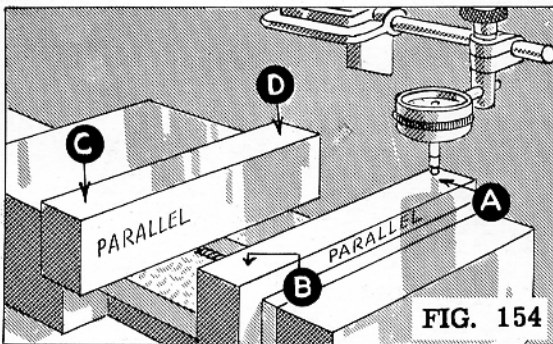

FIG. 154
17. Move the ram so that it is at the beginning of the stroke. Move the table so that one end of the parallel is under the contact point of the indicator as shown at (A) in Fig. 154.